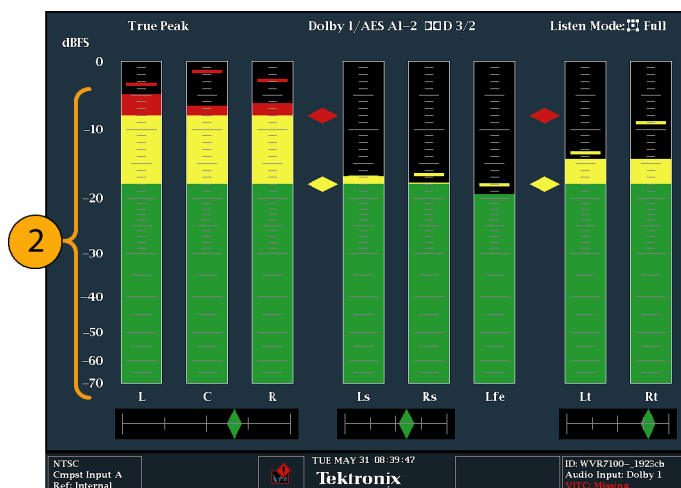

Figure 69: Audio levels
2. Check the level meter bars for current audio levels, which are displayed according to the selected meter ballistics. Each bar displays three colors. (See Figure 69.)